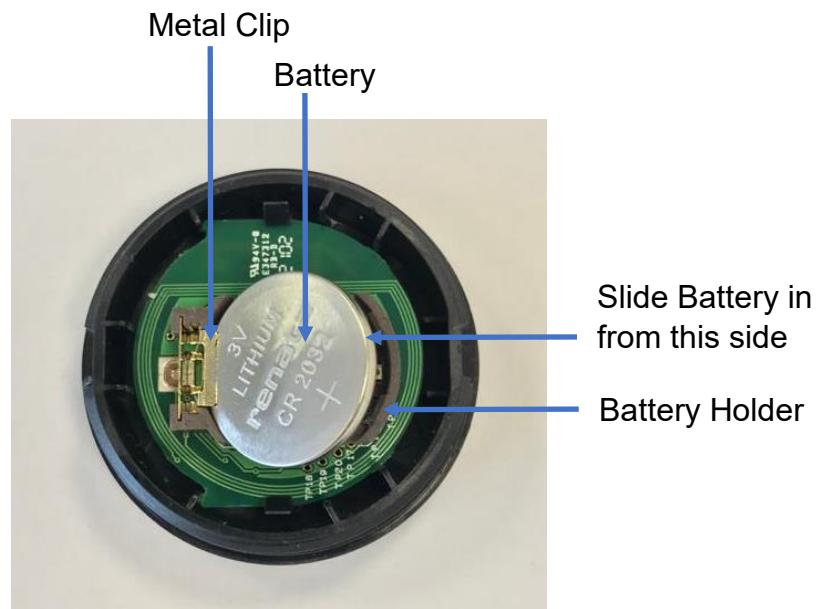

Fig 3 - Sense Shield with Lanyard clip shown for illustration purposes
1. Noting correct battery polarity, place the battery in position by sliding battery under metal clip (Fig 3) and carefully press down into battery holder until battery clips into position (Fig 4).